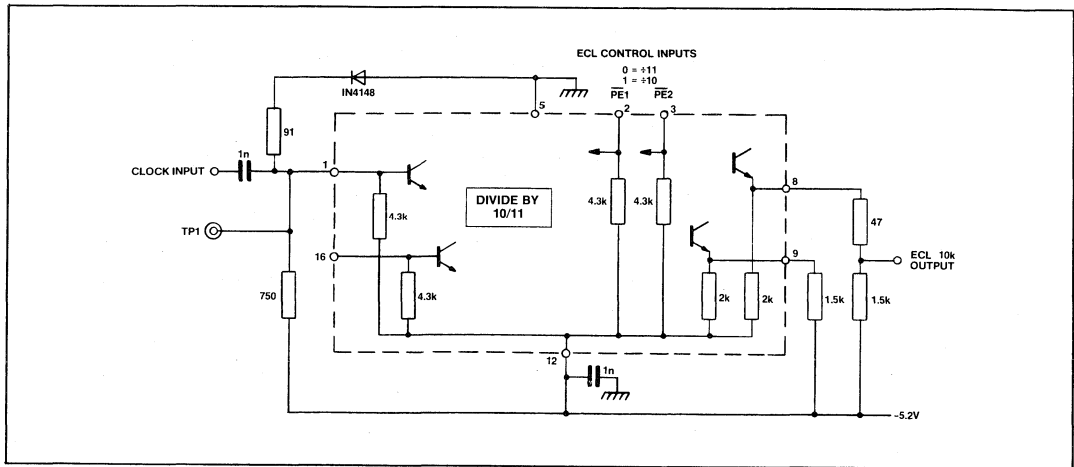

Fig.7 Typical application using ECL outputs. NB Voltage at TP1 should be -1.3V at 25°C
2. The outputs are compatible with ECL II but can be interfaced to ECL 10K as shown in Fig. 7.